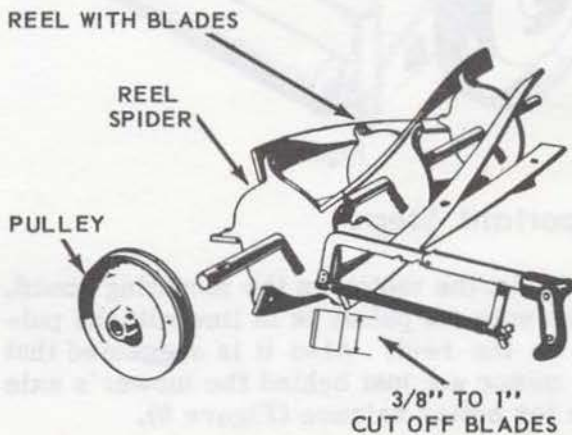

Figure 1
3. On one side of the reel cut off the end of each blade. Cut just enough to slide the larger belt pulley on the shaft and fit it up against the reel spider (Figure 1).